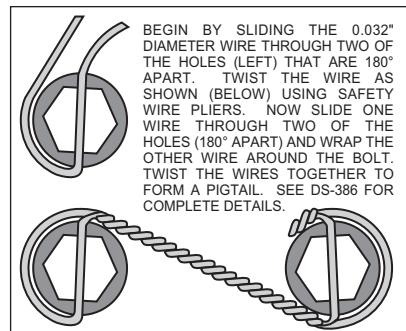

Figure 4. Safety Wire Diagram
• Pack the small outer bearing cone (18) with high temperature disc brake bearing grease and install into front of hub (10). Slide the hub/rotor assembly (10 and 13) with outer bearing cone (18) onto the spindle. Secure using spindle washer (19), stock adjusting nut and nut locking device. Adjust bearings per Original Equipment Manufacturer (OEM) specifications.
• Install the dust cap (20) and o-ring (21) onto the hub (10). Friction created by the o-ring (21) on the dust cap (20) keeps it from unscrewing.
• With the larger I.D. side of the rotor (13) facing away from the hat (14), bolt rotor (13) to hat (14) through the backside of the rotor using washers (15) and bolts (16). Torque bolts (16) to 85 in-lb. Safety wire bolts (16) using standard 0.032 inch diameter stainless steel safety wire as shown in Figure 4. Please refer to Wilwood's data sheet DS-386 (available at www.wilwood.com/Pdf/DataSheets/ds386.pdf) for complete safety wire installation instructions.
• Slide the rotor/hat assembly over the studs (9) in the hub (10) taking care to align the small countersunk holes in the hat (14) with the small threaded holes in the hub (10). Install three flat head socket screws (17) through the small holes in the hat (14) and torque to 85 in-lb.
• Install one washer (26) over each pre-installed stud (25) on the radial mount bracket (1). Slide the caliper (22) in place over the studs and rotors, then install the washer (24) and lock nut (23) to hold the caliper in place. The caliper bleed screws should be pointing up.
• Remove the caliper center bridge pad retainer bolt, nut, and tube from the caliper. Slide the brake pads (27) into place. They should install easily without interference. Check that the outside radius of the brake pad is aligned with the outside diameter radius of the rotor face. Add or subtract shims (26) between the caliper and mount bracket to gain the proper alignment. Lubricate caliper mounting studs and nuts with lightweight oil, reinstall the caliper and torque the caliper nuts (23) to 30-35 ft-lb. Reinstall the center bridge pad retainer tube, bolt, and locknut. The locknut should be snug without play in the bolt or tube. Be cautious not to over tighten.